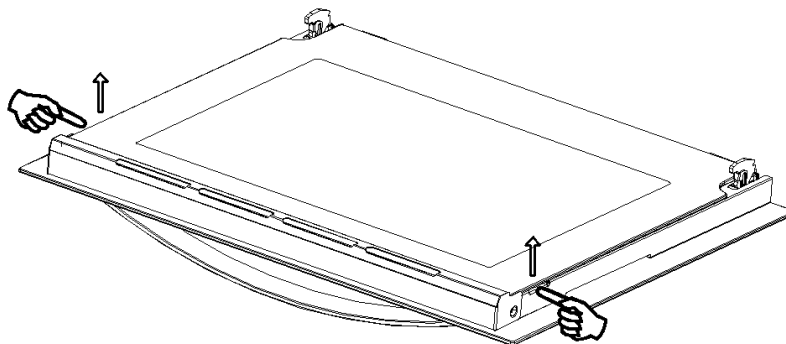

Figure 8
1. To insert index finger into disassembly groove and pry up inside glass, as shown in figure 8